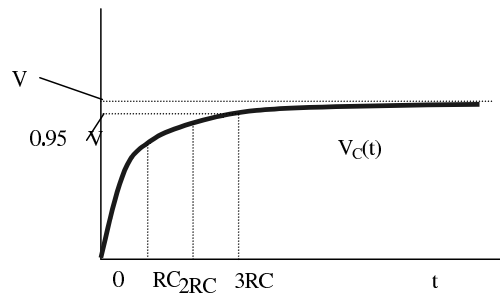

FIGURE 10. Step Response assuming uncharged initial capacitor
for all t . Figure 10 plots this function for $t \geq 0$. This figure shows that the initial voltage over the capacitor is zero and then grows in a non-decreasing (monotone) manner until it approaches a steady state voltage of V volts. The rate at which $v_c^{(\text{step})}(t)$ approaches the steady state voltage is determined by the time constant RC . On the basis of our discussion for the natural response, we expect the capacitor to be fully charged to within 5 percent of its full charge (V) within three time constants. After 4-5 time constants, the capacitor should be completely charged to V volts for all practical purposes.